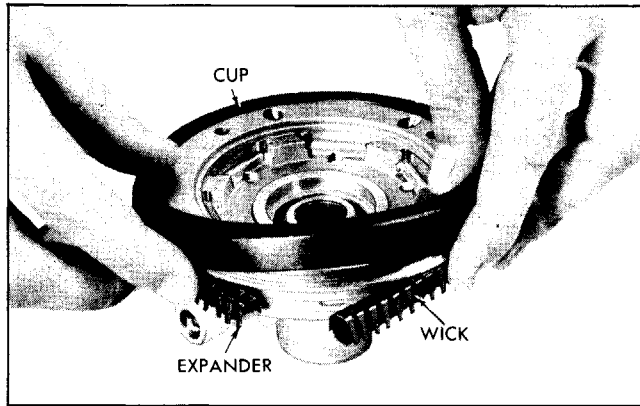

Fig. 5-60 Removing or Replacing Leather Cup
12. Carefully lift large leather cup off power piston (Fig. 5-60). Keep in mind that underneath the leather cup is a metal lip expander and wick assembly that has a tendency to uncoil when released. Wick and expander may be separated for inspection.
5. Holding expander in place, slip leather cup in place with lip also pointing toward hub end of piston (Fig. 5-60). If new leather cup is installed use cardboard cylindrical retainer to confine cup during installation. This will avoid any sluggishness in operation during first few days of use or until leather becomes softened by fluid.